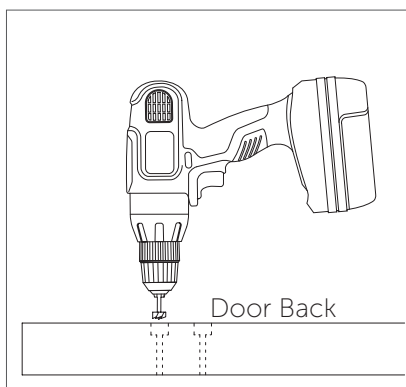

Figure 4
7. Turn the door over. Using a 1-1/8" Forstner bit*, drill a 7/16" deep hole into each pilot hole. (Figure 4).